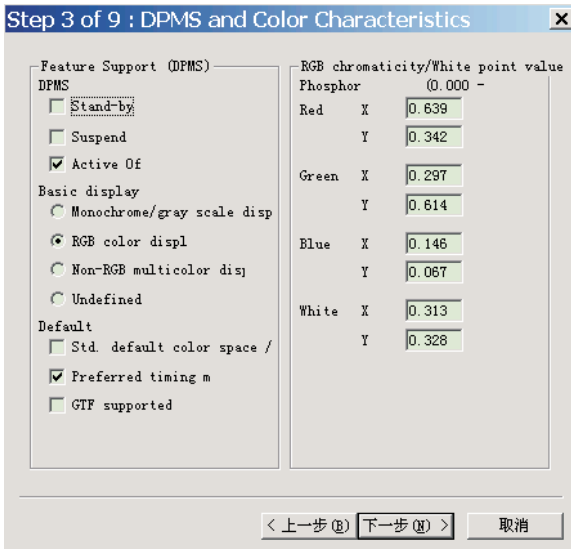

Fig. 33
- 2. Click Next , bring up Fig. 33.